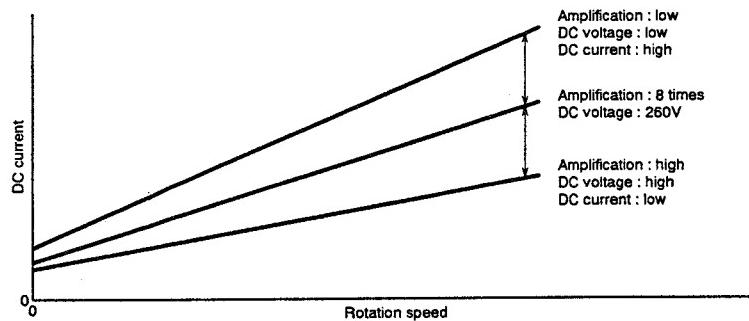

Fig. 8-8
- The filter consisting of R201 and C202 removes high harmonic components from the voltage generated from the DC current flowing to the detection resistor, and R205 and C206 average the voltage and supplies it to OP1 pin ⑤. OP1 forms a non-inverting voltage amp. circuit together with the peripheral elements.
- The micro computer stores the set values which vary according to the rotation speed as shown in Fig. 8-8. When the DC current level exceeds the set value, the micro computer enters the overload control state. The compressor motor is controlled in the same way as in external judgement described previously.
- R229, R230, R231 detect the DC voltage at the power circuit. The micro computer receives a DC voltage (210-300V) via HIC ⑥ and applies correction to the overload set value so the DC current is low (high) when the DC voltage is high (low).